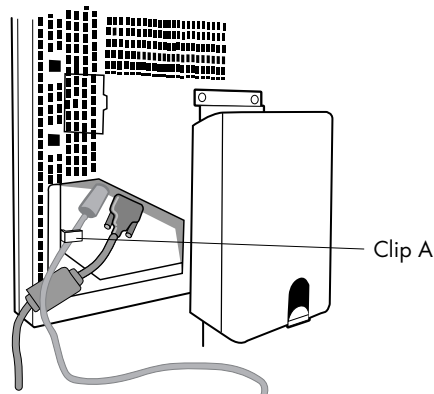

Figure C.1
3. Connect the 15-pin mini D SUB of the video signal cable and the AC Adapter cable. Place the AC Adapter cable under Clip A (**Figure C.1**).